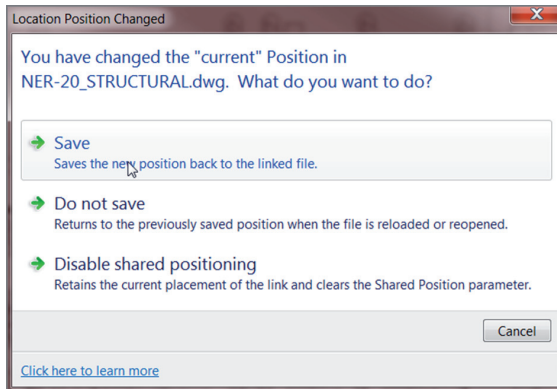

FIGURE BC6.22: Saving the coordinates to the AutoCAD file
9. After you save the Revit model, you're prompted to save the new coordinates in the DWG file. Click the Save button, as shown in Figure BC6.22.